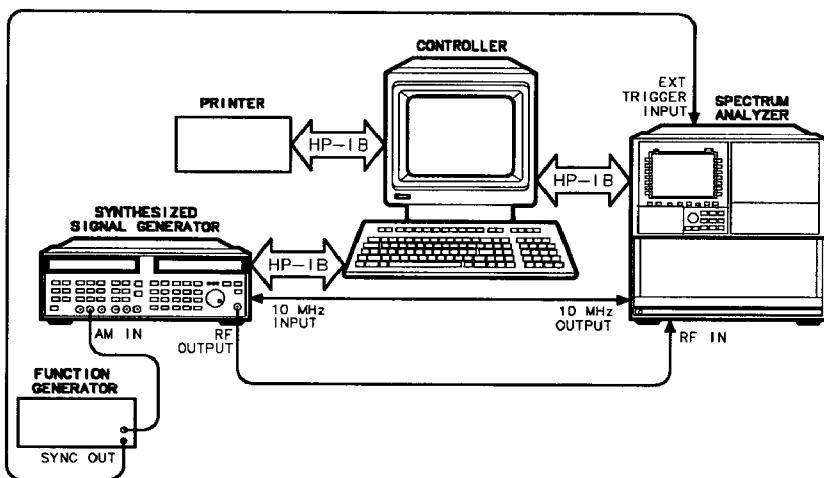

Figure 7-7. 1—20 GHz Log AM Gain Calibration Equipment Setup
1. Set up the equipment as shown in Figure 7-7.